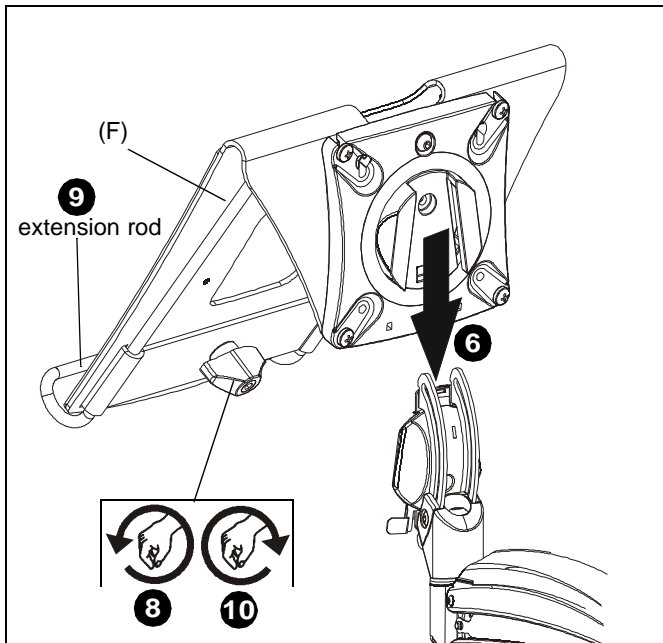

Figure 5
6. Slide laptop tray (F) onto mounting head until quick release tab clicks into place. (See Figure 5)
8. Turn extension rod tension adjustment knob counter-clockwise to decrease tension. (See Figure 5)
9. Extend laptop extension rod as desired. (See Figure 5)
10. Turn extension rod tension adjustment knob clockwise to tighten extension rod in place. (See Figure 5)